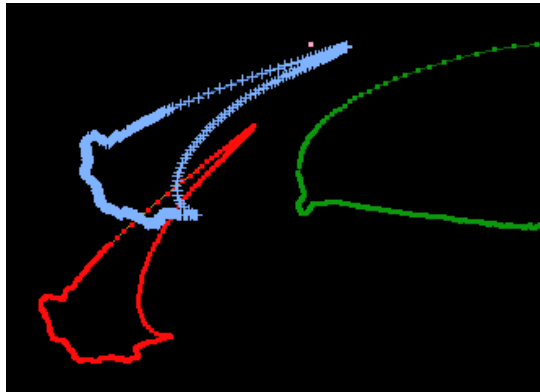

Figure 17. Preview of slat rotated and translated.
- Change the *Rotation* parameter: drag the slider to the left to  $-20$  or enter the value in the adjacent text field and press <Enter>. Notice the slat is rotated around the hinge point location  $(0, 0)$ . Translate the object by entering a value of  $.05$  for *X Translation* and  $.05$  for *Y Translation*. Press <Enter> to see a preview of the new location, shown in blue. Your geometry should look like that illustrated in Figure 17.